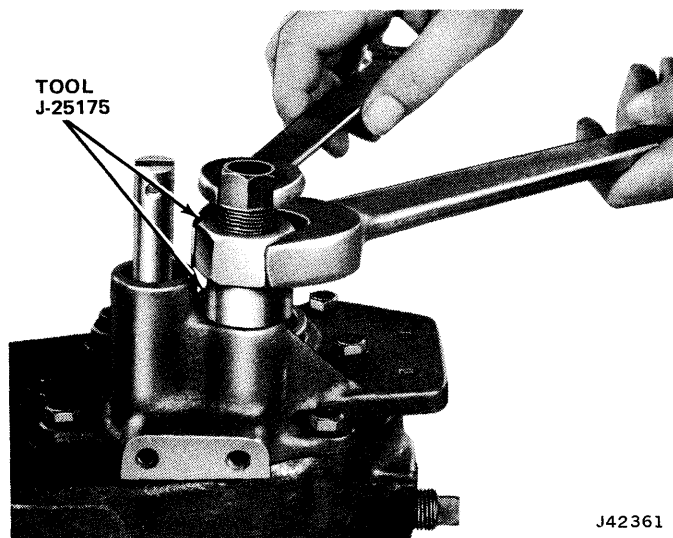

Fig. 8-6 Shift Rod Oil Seal Removal
(3) On models with eight-cylinder engine, place support stand under transmission and remove rear crossmember.
(4) Disconnect front propeller shaft at transfer case yoke. Mark shaft and yoke for assembly alignment reference.
(5) Remove clevis pins connecting control links to transfer case shift rods.
(6) On models with 3-speed transmission, remove transfer case shift housing from support tube using brass drift and hammer.
(7) Remove shift rod seal using Tool J-25175 (fig. 8-6).
(1) Shift transfer case into 4L position if left-side shift rod seal is to be replaced.
(2) Raise vehicle.
(3) Remove clevis pins connecting control links to transfer case shift rods.
(4) Remove shift rod oil seal using Tool J-25175 (fig. 8-6).